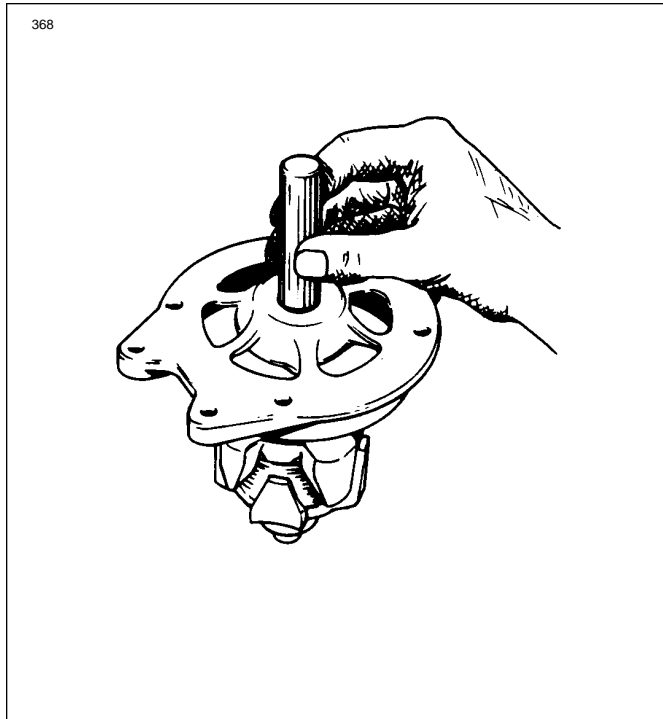

Figure 11-10 Installation of Bearing
a. Press the ball bearing into the drive end head using a flat block approximately two inch square so that the pressure is exerted on the outer race of the bearing. Install the retainer plate. With the snap ring and retainer cup in place on the rotor shaft, use a tool that fits over the shaft and against the inner bearing race, and press until the inner bearing race is against the snap ring retainer cup. (Refer to Figure 11-10).